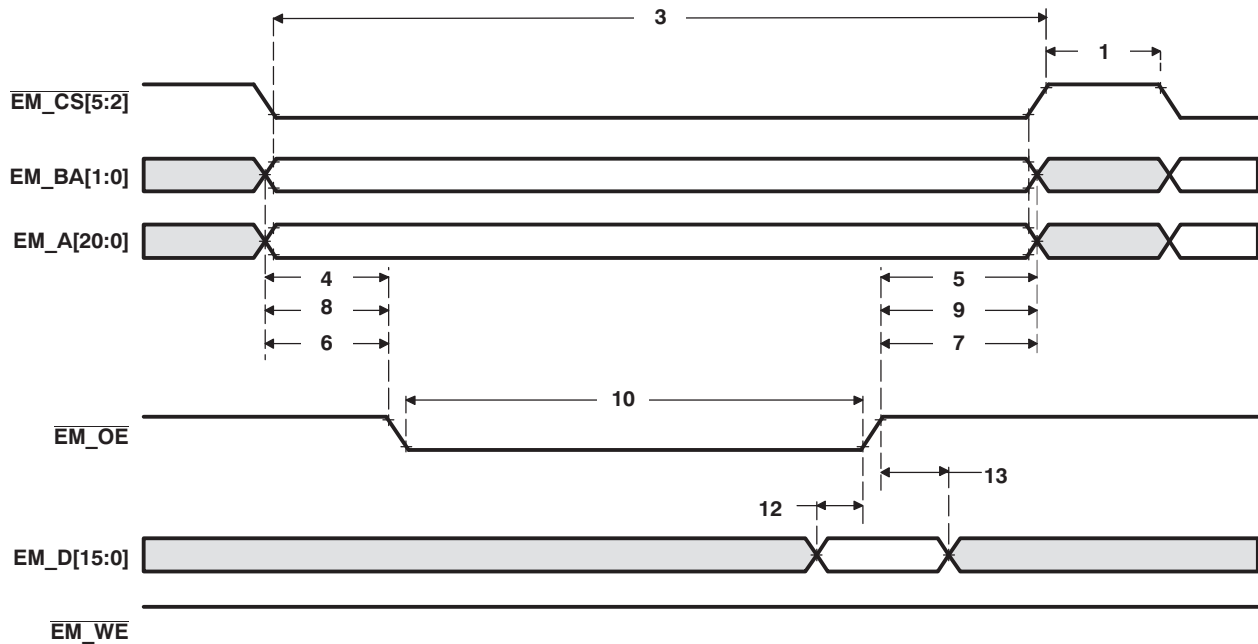
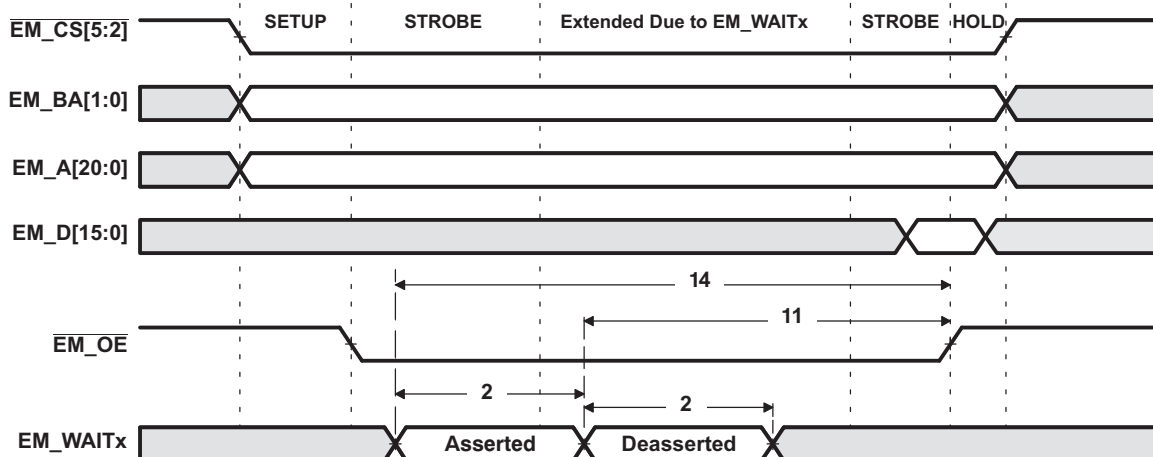
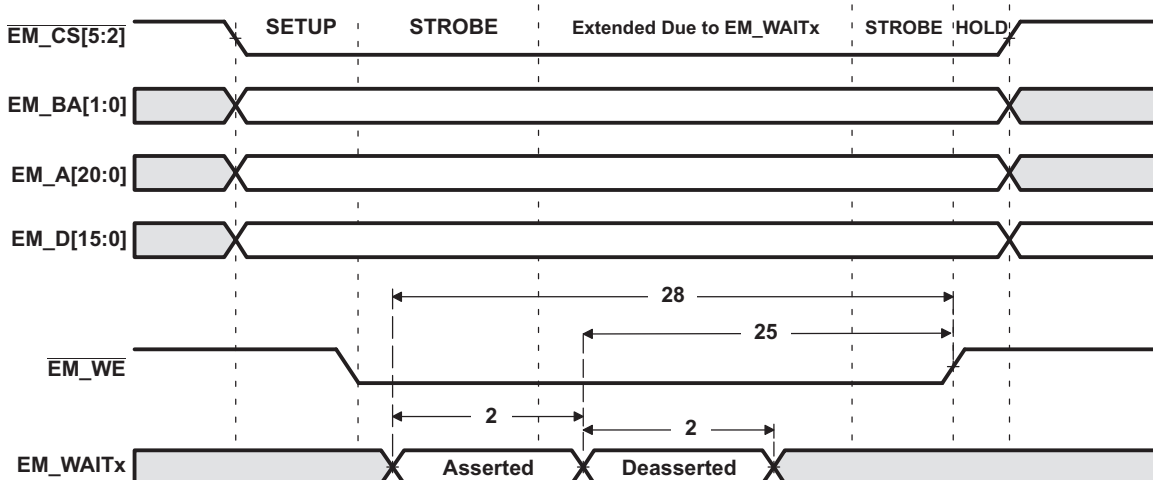

Figure 5-24. Asynchronous Memory Read Timing for EMIF
Figure 5-26. EM_WAITx Read Timing Requirements
Figure 5-27. EM_WAITx Write Timing Requirements
(1) Timing parameters are obtained with 10pF loading on the EMIF pins.
(2) E = SYSCLK period in ns. For example, when SYSCLK is set to 75 or 200 MHz, E = 13.33 or 5 ns, respectively.
(3) Setup before end of STROBE phase (if no extended wait states are inserted) by which EM_WAITx must be asserted to add extended wait states. Figure 5-26 and Figure 5-27 describe EMIF transactions that include extended wait states inserted during the STROBE phase. However, cycles inserted as part of this extended wait period should not be counted; the 4E requirement is to the start of where the HOLD phase would begin if there were no extended wait cycles.
(see Figure 5-24, Figure 5-26, and Figure 5-27)
(see Figure 5-24, Figure 5-26, and Figure 5-27) (continued)
⁽⁴⁾ (see Figure 5-24, Figure 5-26, and Figure 5-27)
⁽⁴⁾ (see Figure 5-24, Figure 5-26, and Figure 5-27) (continued)